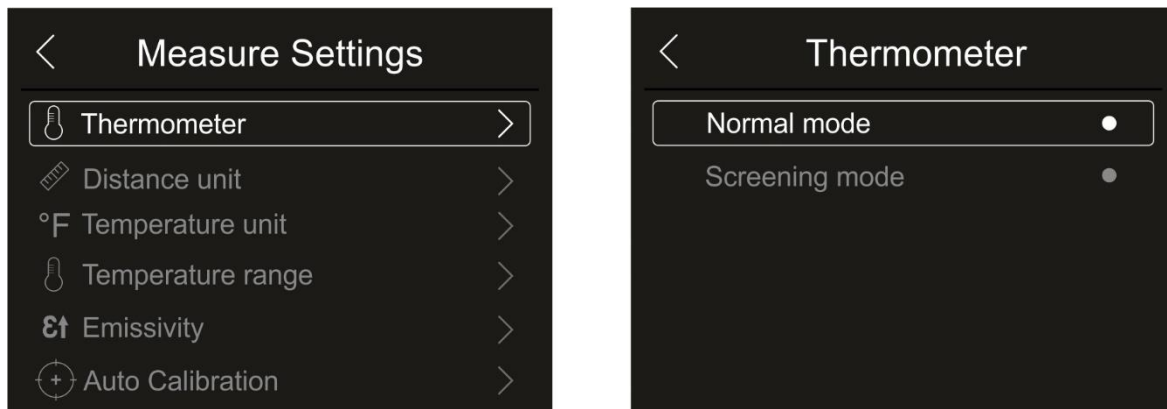

Fig. 24: Menu Thermometer
1. Touch the item “Thermometer”. The screen in Fig. 24 – right side appears on the display: